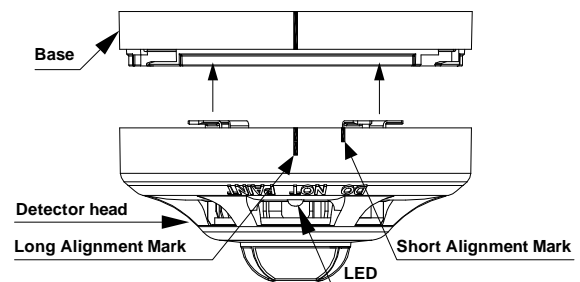

Fig. 2: Fitting the detector to the base
2. Align the components as shown in Fig. 2.